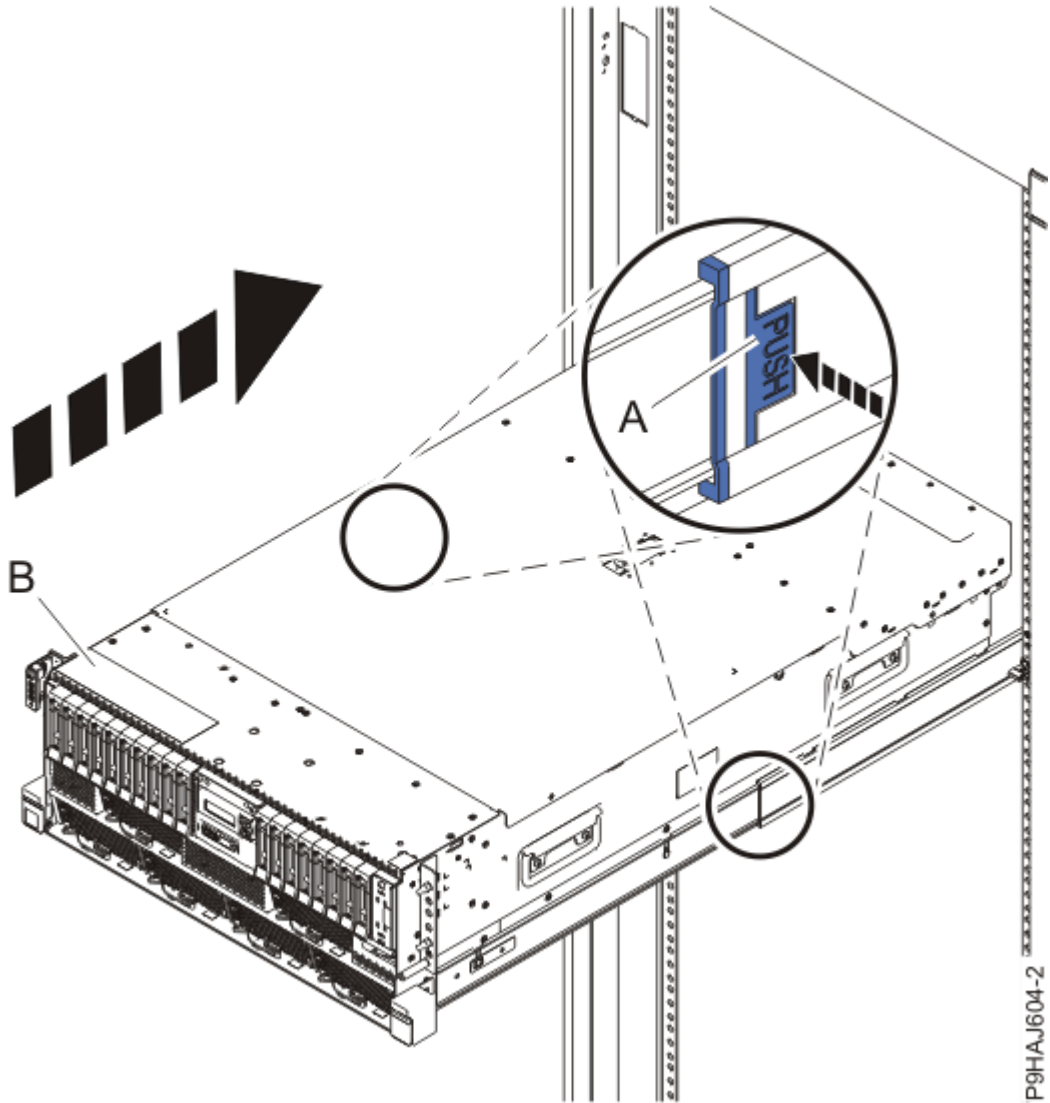

Figure 15. Placing the system into the operating position
3. For a rack-mounted system, unlock the blue rail safety latches (**A**) as shown in Figure 15 on page 19 by pushing them inward.